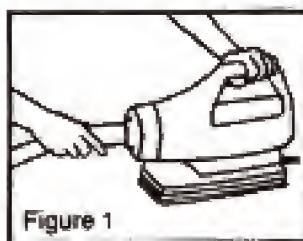

Figure 1
2. To attach the flexible hose, simply insert it into inlet of cleaner. To remove hose, press button firmly on coupling and pull out. (Fig. 1)